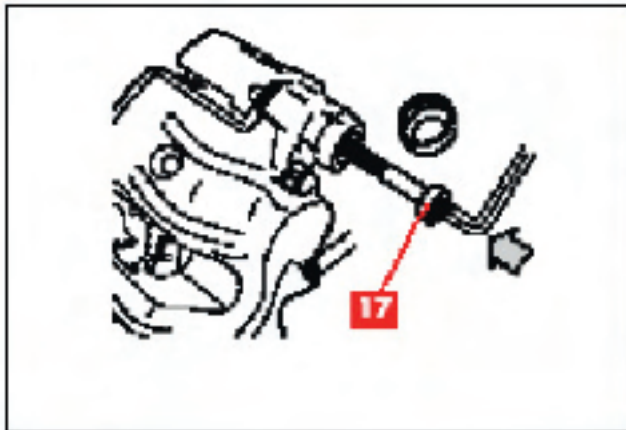

Figure 22 — Install a NEW caliper mounting bolt.
6. Insert and tighten a new caliper slide pin(17) to the required torque (see Fig. 22).